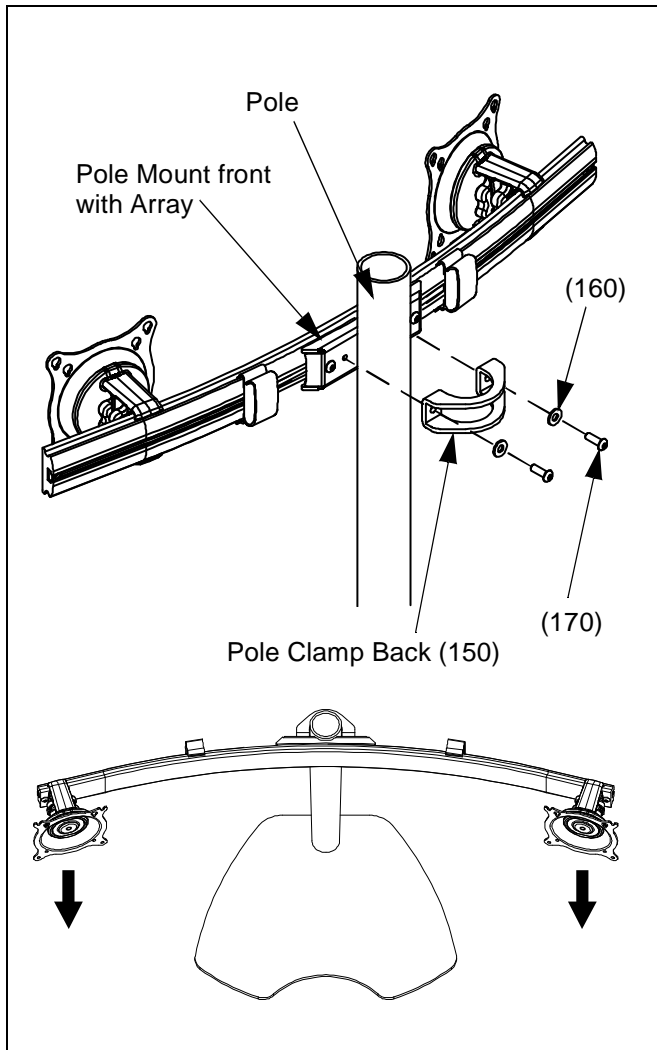

Figure 4: Assemble Array Rail to Pole
2. Assemble pole clamp back (150) to pole mount front using two FW (160) and two BHCS (170) using a 5/32" hex key. (see Figure 4)
3. Secure pole mount back (150) to pole mount front and pole by tightening two BHCS (170) using a 5/32" hex key.
4. Add pipe cap (200) to top of pole.